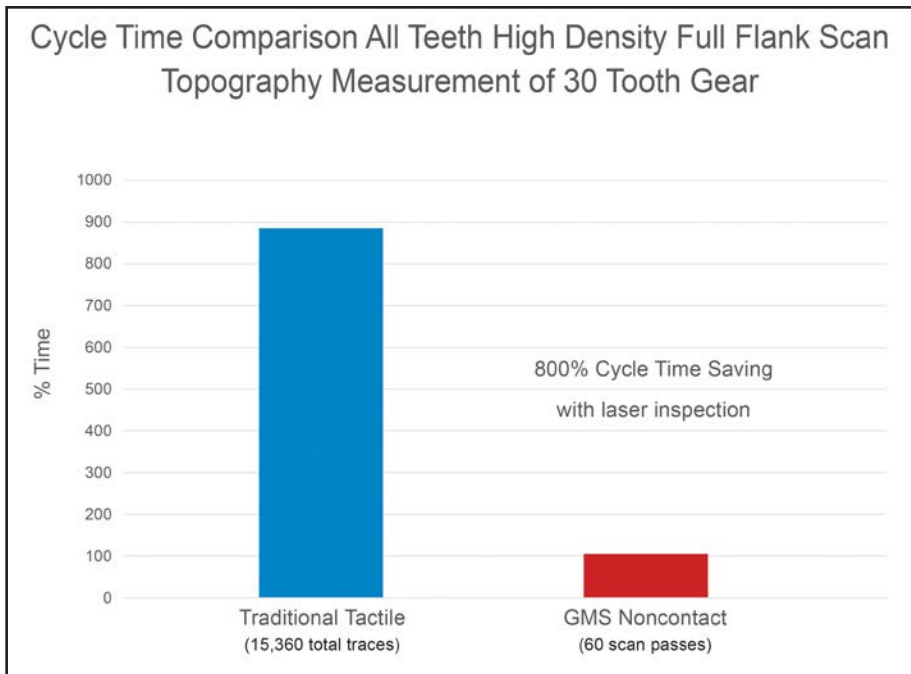

Figure 8 GMSL cycle time advantage.
- Figure 8 shows an 800% cycle time reduction on a GMSL machine with laser sensor, compared to inspecting the same gear with a traditional touch probe.